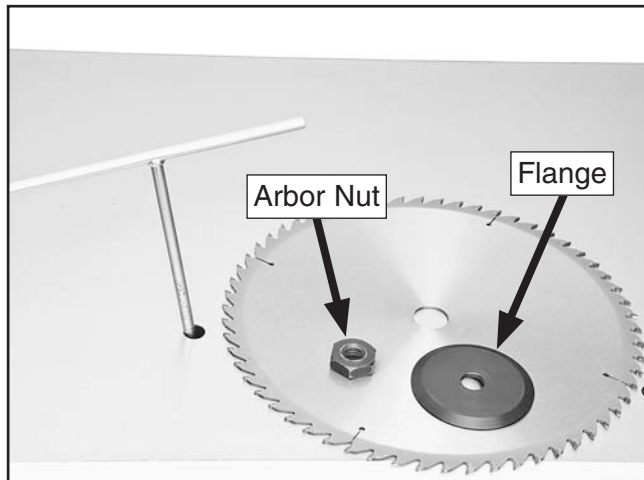

Figure 14. Main blade arbor nut and flange.
3. While holding the T-handle wrench with one hand, rotate the arbor nut clockwise to remove it and the flange (see **Figure 14**).